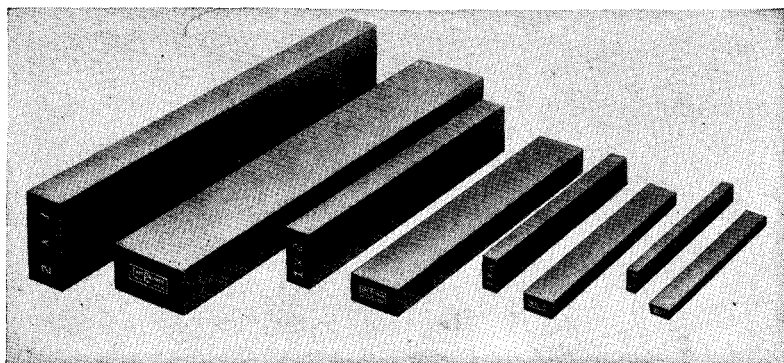

Fig. 2-16. Several sizes of parallels. Note sizes marked on edges. (*The Taft-Pierce Manufacturing Company*)
*Parallels* (Fig. 2-16). *Parallels* are pieces of cast iron or steel of rectangular cross section, of considerable length in proportion to their width and thickness, with opposite sides parallel and adjacent